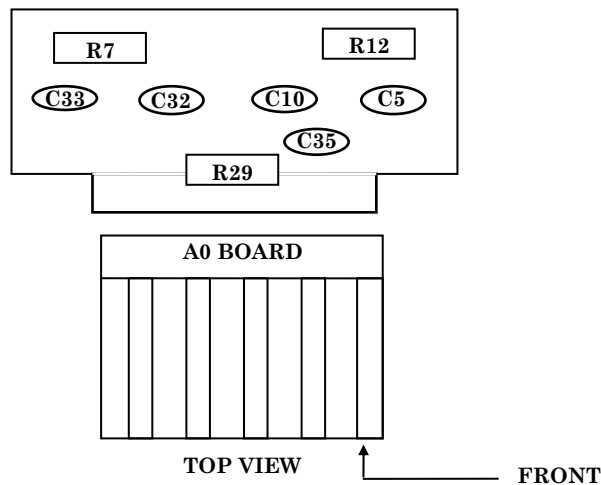

Figure 3. Input board - adjustment locations.
- (2) Connect **TI OUTPUT HIGH** to **INPUT HIGH** and **LOW** using tee connector and two cables.
- (3) Press keys and enter values using **DATA ENTRY** keys as listed in (a) through (g) below:
- (4) Adjust spectrum analyzer controls to observe a 1 kHz signal.
- (5) Alternately adjust A0R29 and A0C35 (fig. 3) for minimum indication on spectrum analyzer (R).
- (6) Press **SPCL** key and enter **27 ENTER** using **DATA ENTRY** keys. Adjust A0R12 (fig. 3) for minimum indication on spectrum analyzer.
- (7) If < -75 dB was not achieved in (5) or (6) above, then alternately adjust A0C5, A0C10, and A0R12 (fig. 3) for minimum indication on spectrum analyzer (R).
- (8) Press **SPCL** key and enter **26 ENTER** using **DATA ENTRY** keys.
- (9) Adjust A0R7 (fig. 3) for minimum indication on spectrum analyzer (R).
- (10) If <-75 dB was not achieved in (9) above then alternately adjust A0C32, A0C33, and A0R7 (fig. 3) for minimum indication on spectrum analyzer (R).
- (11) Disconnect spectrum analyzer from equipment setup.
- (12) Disconnect TI **OUTPUT HIGH** from **INPUT HIGH** and **LOW**.
- (13) Connect TI **OUTPUT HIGH** to **INPUT HIGH** and connect **OUTPUT LOW** to **INPUT LOW**.
- (14) Press keys and enter values using **DATA ENTRY** keys as listed in (a) through (l) below:
- (15) Adjust A0C5 (fig. 3) for a 100.0 percent indication on TI (R).
- (16) Press **SPCL** key and enter **26 ENTER** using **DATA ENTRY** keys.
- (17) Adjust A0C32 (fig. 3) for a 100.0 percent indication on TI (R).
- (18) Reverse **INPUT HIGH** and **LOW** connections and repeat (13) above.
- (19) Adjust A0C10 (fig. 3) for a 100.0 percent indication on TI (R).
- (20) Press **SPCL** key and enter **26 ENTER** using **DATA ENTRY** keys.
- (21) Adjust A0C33 (fig. 3) for a 100.0 percent indication on TI (R).